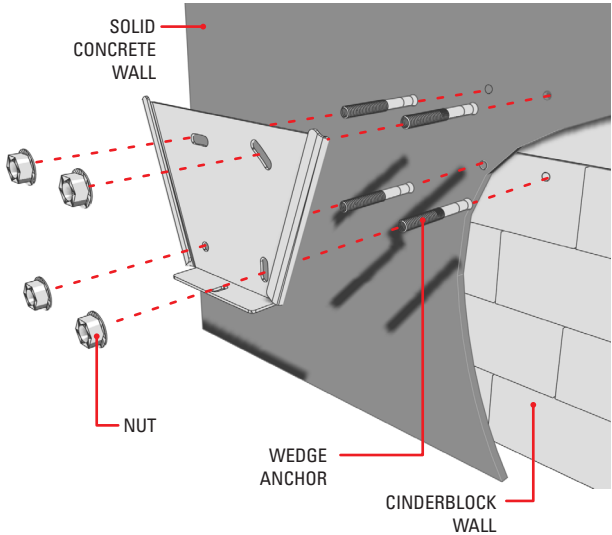

Figure 3. Attaching the Wall Bracket to Solid Concrete or Cinderblock Wall
- (1) Level and use the wall bracket as a template to mark the mounting holes on the wall.
- (2) Attach the wall bracket to the wall using 1/4-inch diameter x 2-inch wedge anchors as shown in Figure 3.